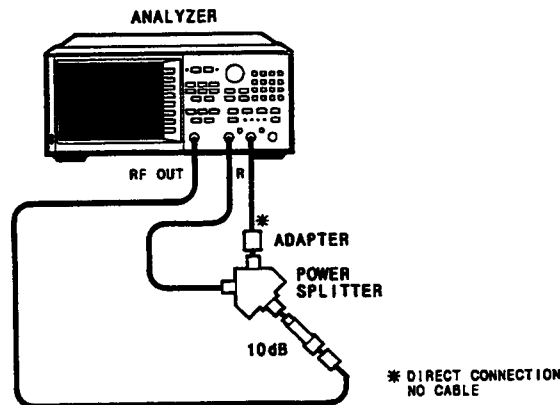

Figure 9. Absolute Amplitude Accuracy Test Setup (Input A)
4. Connect the equipment as shown in Figure 9 and press [MEAS] [A] [MENU] [CW FREQ]. For each frequency on the *Performance Test Record*, record the input A power marker reading, as above.